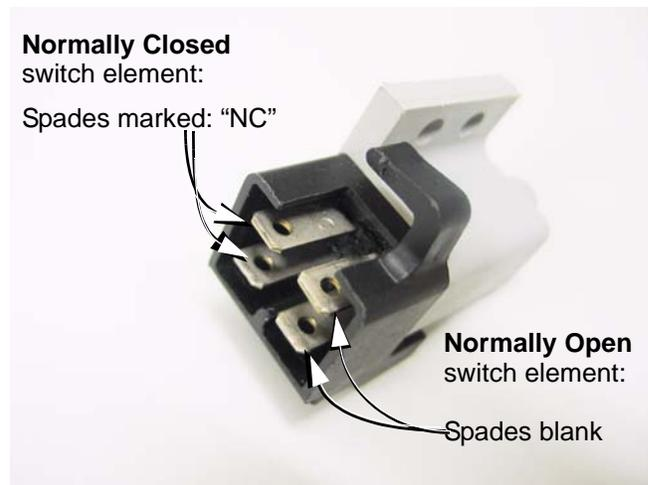

Figure 7.65
- The male spade terminals that are associated with each-other face each-other broad-surface to broad surface. See Figure 7.65.